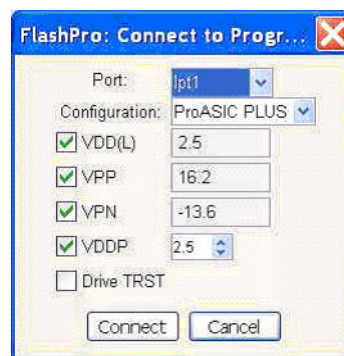

Figure 7-38. FlashPro3:Connect to Programmer Dialog Box
1. From the Actel FlashPro software **File** menu, click **Connect**. The FlashPro Connect to Programmer dialog box displays, as shown in Figure 7-38.